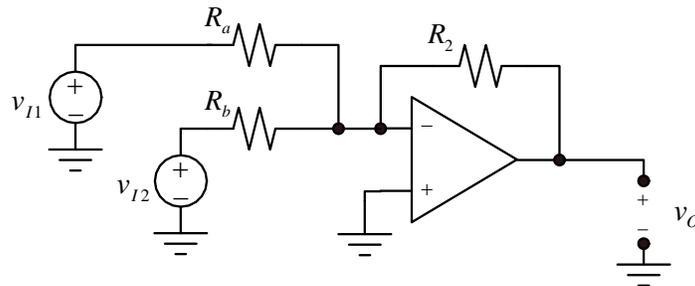

Fig. 3. A summing amplifier.
Here we will build a circuit to obtain a sinusoidal voltage with a DC offset. Figure 3 shows a summing amplifier. Use $R_2 = 10\text{ k}\Omega$ and design a circuit (that is, choose values for R_a and R_b) that will produce a 3 V peak-to-peak sinusoid with a DC offset of 2 V. Use the 0 to 6 V supply of your power supply for v_{I2} and use the function generator for v_{I1} . Verify operation using your oscilloscope. Include in your notebook (1) a complete circuit diagram with all components labeled and (2) sketches or screen captures showing the output waveform.